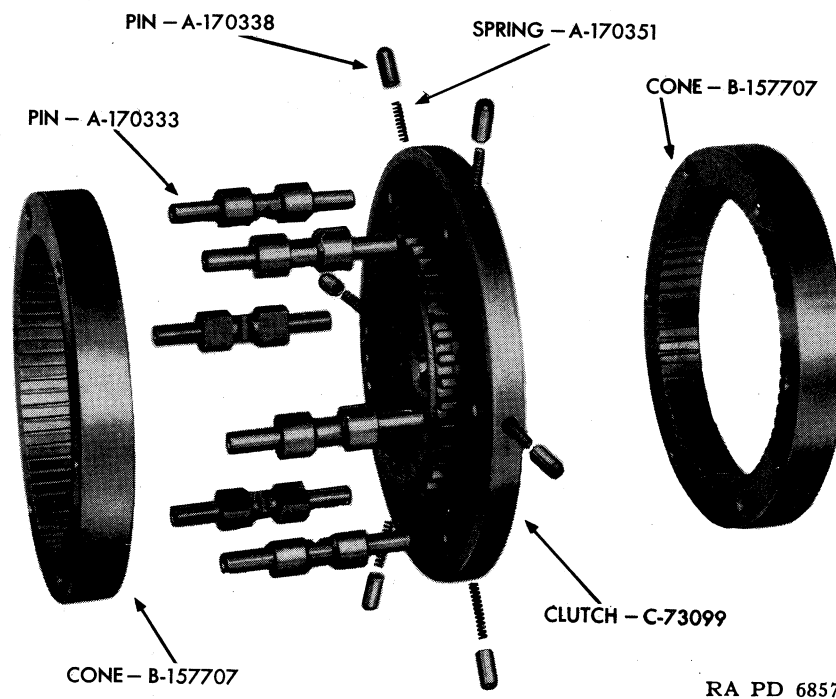

FIGURE 56—Parts of fourth and fifth gear synchronizer assembly.
c. Disassembly (figs. 56 and 57).— If the inspection has shown the synchronizer to be unserviceable for any reason, replace the whole assembly. If a new assembly is not available proceed as follows with the disassembly of the old one and replace necessary parts. Place synchronizer in a drill press so that it rests on one of the bronze cone plates. Use a $\frac{3}{8}$ -in. drill in each of the six holes in each bronze cone plate drilling to a depth of $\frac{3}{64}$ in. to remove that portion of the cross pin which is riveted over. Run drill slowly to compensate for the semi-hardness of the cross pin. Drill all holes to the same depth. Remove from press and support the central portion of the synchronizer clutch on a metal block. Use a $\frac{5}{16}$ -in. punch and, driving each pin a little at a time, remove all cross pins from plate. Remove the other plate with the cross pins from the clutch plate being careful not to lose poppet pins or springs which will then be released. Use a $\frac{5}{16}$ -in. punch and drive the cross pins from the second plate.
d. Assemble (figs. 56 and 57).— Carefully examine clutch plate, poppet springs and pins before assembly. Clean out poppet spring holes and carefully inspect the polished surfaces of the holes where the cross pins ride. Be sure, if any parts are to be reused, that all such parts are serviceable. Place new bronze cone plate on a flat surface with the larger diameter of the cone surface of the plate down. Drive new cross pins into cone plate so that the flats on each cross pin will be perpen-